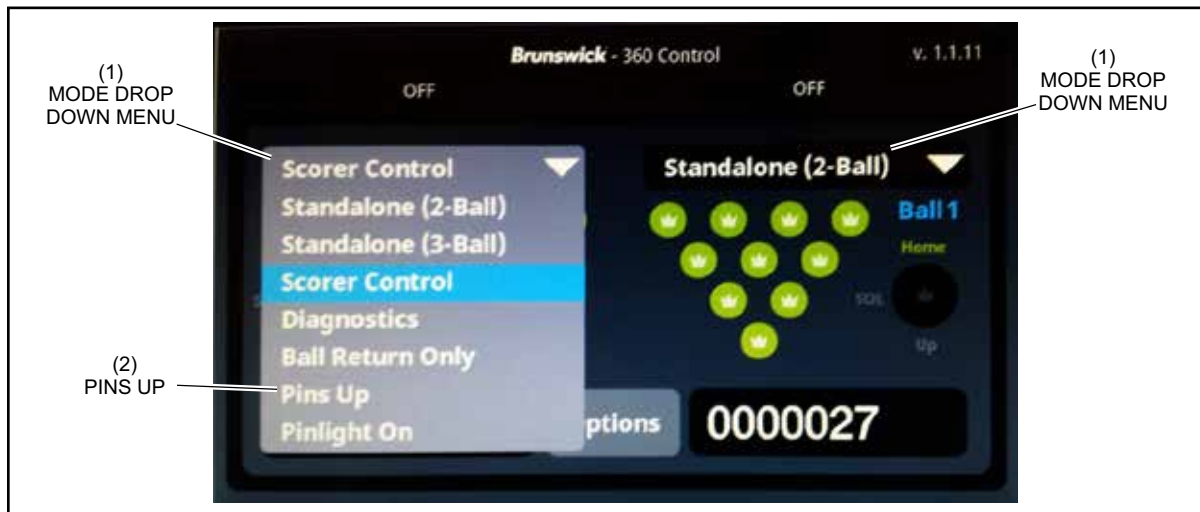

Figure 4-8a. Select Pins Up Mode (Versions 1.1.14 and Prior)
- b. On the Pinsetter Mode drop down menu, select Pins Up or Setup. *Figures 4-8a and 4-8b.*